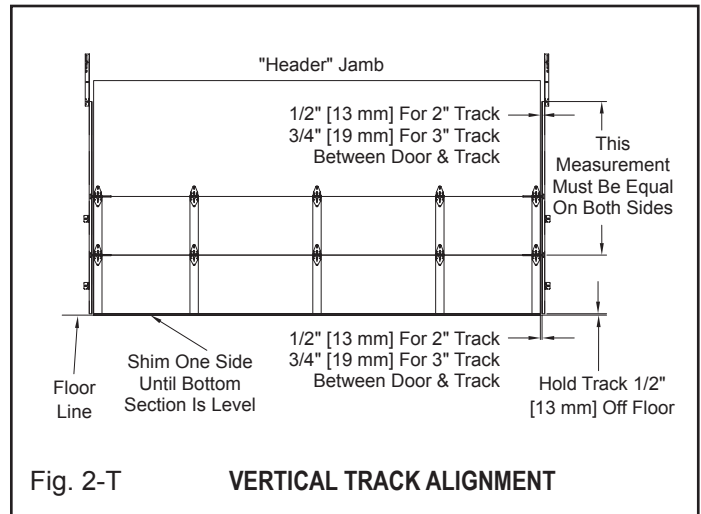
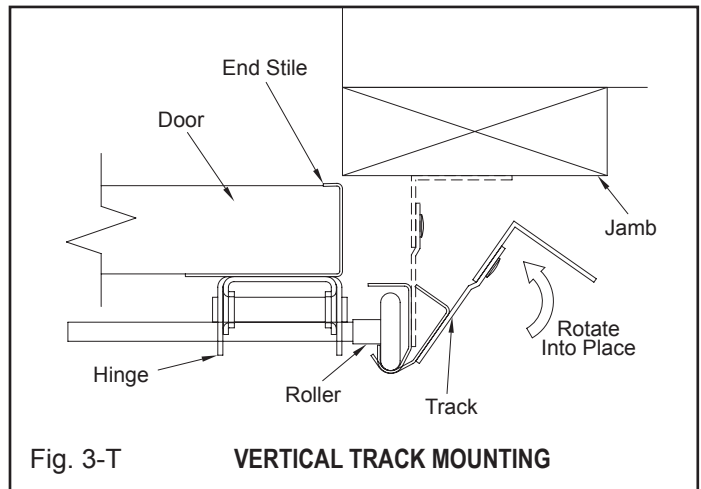
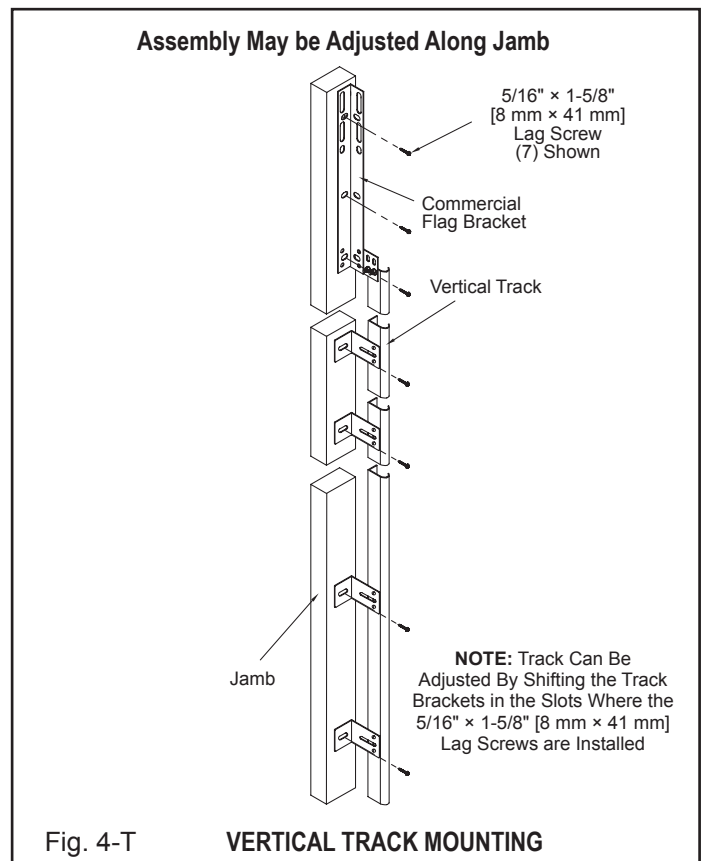

Fig. 2-T VERTICAL TRACK ALIGNMENT
Fig. 3-T VERTICAL TRACK MOUNTING
Fig. 4-T VERTICAL TRACK MOUNTING
Use a 3/32" [2 mm] Allen wrench to attach exterior lift handle to studs using 3/16" set screws (Fig. 4-S).
**Remember:** The small indentations that run the length of the top rail and end stile mark the mounting location (Fig. 4-S).
**Step 1: Top Bracket Attachment.** Loosen roller carrier and insert roller. Two (2) #14 × 5/8" [6 mm × 16 mm] self-drilling screws should fasten the top of the each bracket to the top rail and two (2) screws should attach the bottom of the roller bracket to the end stile (Fig. 4-S).
**Step 1: Vertical Track.** Center bottom section in opening on inside of garage. Level section by shimming low side (Fig. 2-T). Leave shims in place until door install is completed. Install the vertical track on opposite side of where block was placed, over the two (2) rollers of the bottom section with a twisting motion (Fig. 3-T). Raise track 1/2" [13 mm] off the floor and screw 5/16" × 1-5/8" [8 mm × 41 mm] lags (wood jambs) or self-drilling screws (steel jambs) through bottom mounting bracket (Fig. 4-T). Adjust track sideways to allow 1/4" [6 mm] end play in roller about 1/2" [13 mm] (2" track) or 3/4" [19 mm] (3" track) from edge of track to edge of door (Fig 2-T). Plumb vertical track and put at least two (2) lags or sheet metal screws in the mounting brackets at the top of the door. Final adjustment will be made after door is stacked. Measure from the top of the vertical track to the top of the bottom section and set the opposite track at exact same height repeating above procedure (Fig. 2-T). Since the bottom section is level, then the vertical tracks must be level. Make sure bottom rollers do not come out of the bottom of the track.
**Step 3: Finishing Vertical Track.** Set the top of the vertical tracks so that there is a 1/4" [6 mm] end play in the rollers, about 1/2" [13 mm] (2" track) or 3/4" [19 mm] (3" track) from edge of door (Fig. 2-T). Finish attaching vertical track to the wall. If you are mounting to steel jambs, you will have to wait until you can raise the door to finish attaching vertical tracks.